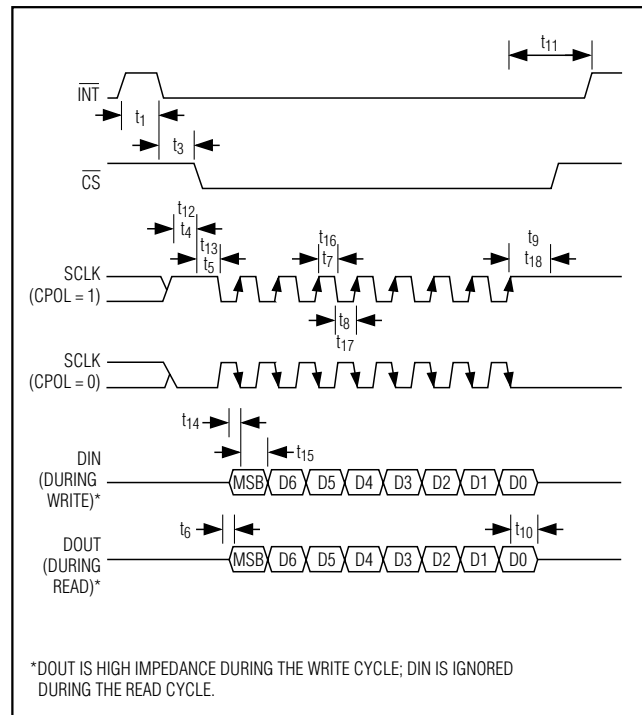

Figure 4. Serial-Interface Timing
**Note 22:** See Figure 4.
The serial interface consists of five signals:  $\overline{CS}$ , SCLK, DIN, DOUT, and  $\overline{INT}$ . Clock pulses on SCLK shift bits into DIN and out of DOUT.  $\overline{INT}$  provides an indication that data is available.  $\overline{CS}$  is a device chip-select input as well as a clock polarity select input (Figure 4).